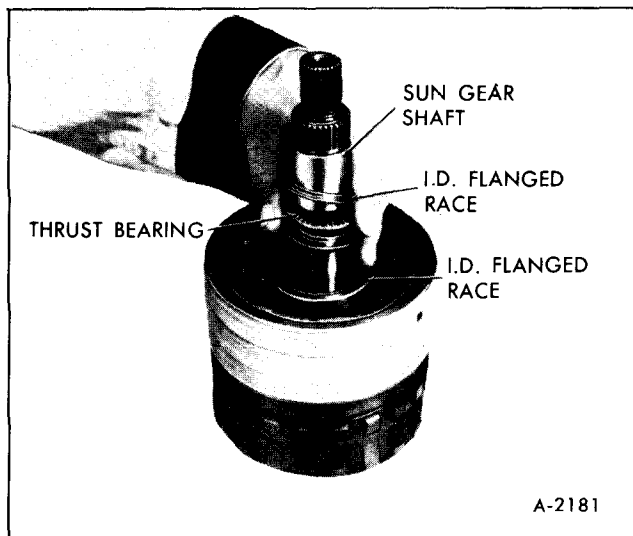

Figure 64—Installing Thrust Bearing over Sun Gear Shaft
16. Lubricate small diameter race with petrolatum and install race on center support with flange facing toward tower end, Figure 64.